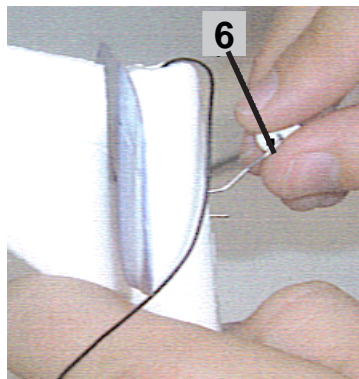

Figure 1
1. Carefully push the Tail Landing Gear (6) into its slot, being careful not to prick a finger on the end of the gear wire. **See Figure 1.**